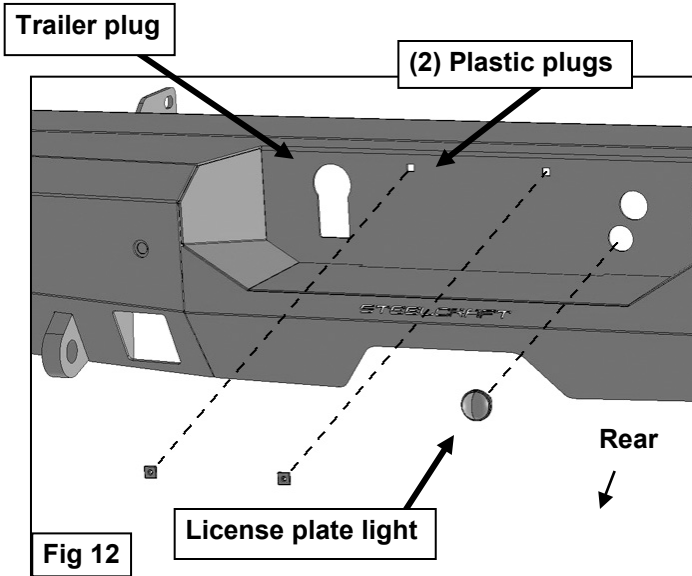

Fig 12
9. Use the (2) plastic plugs to attach the license plate to the (2) holes in the Bumper, **(Figure 12)**.
10. Insert the License Plate Light into the hole in the bumper, **(Figure 12)**. Attach the License Plate Light wiring to the end of the factory license plate light wire harness. Reinstall the factory trailer harness plug into the opening in the bumper. **NOTE:** Use a small flat blade screwdriver to bend the metal clips to hold plug in bumper.